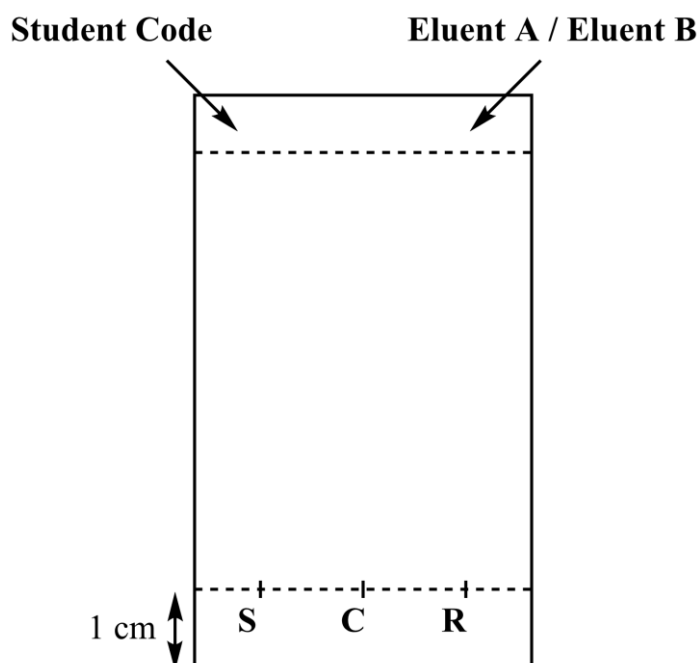

Figure 3. TLC plate preparation
3. **Prepare your TLC plate**. Use a pencil to **draw** carefully the start line (1 cm above the bottom of the plate) and **mark** the positions in order to spot the 3 samples. **Label** them **S** (Starting material), **C** (Crude product) and **R** (Recrystallized product), as described in *Figure 3*. On the top left of the plate, **write** your **Student Code**. On the top right of the plate, **write** the eluent you use (first **Eluent A**, then **Eluent B**). **Spot** the three samples on the plate, using capillary spotters.